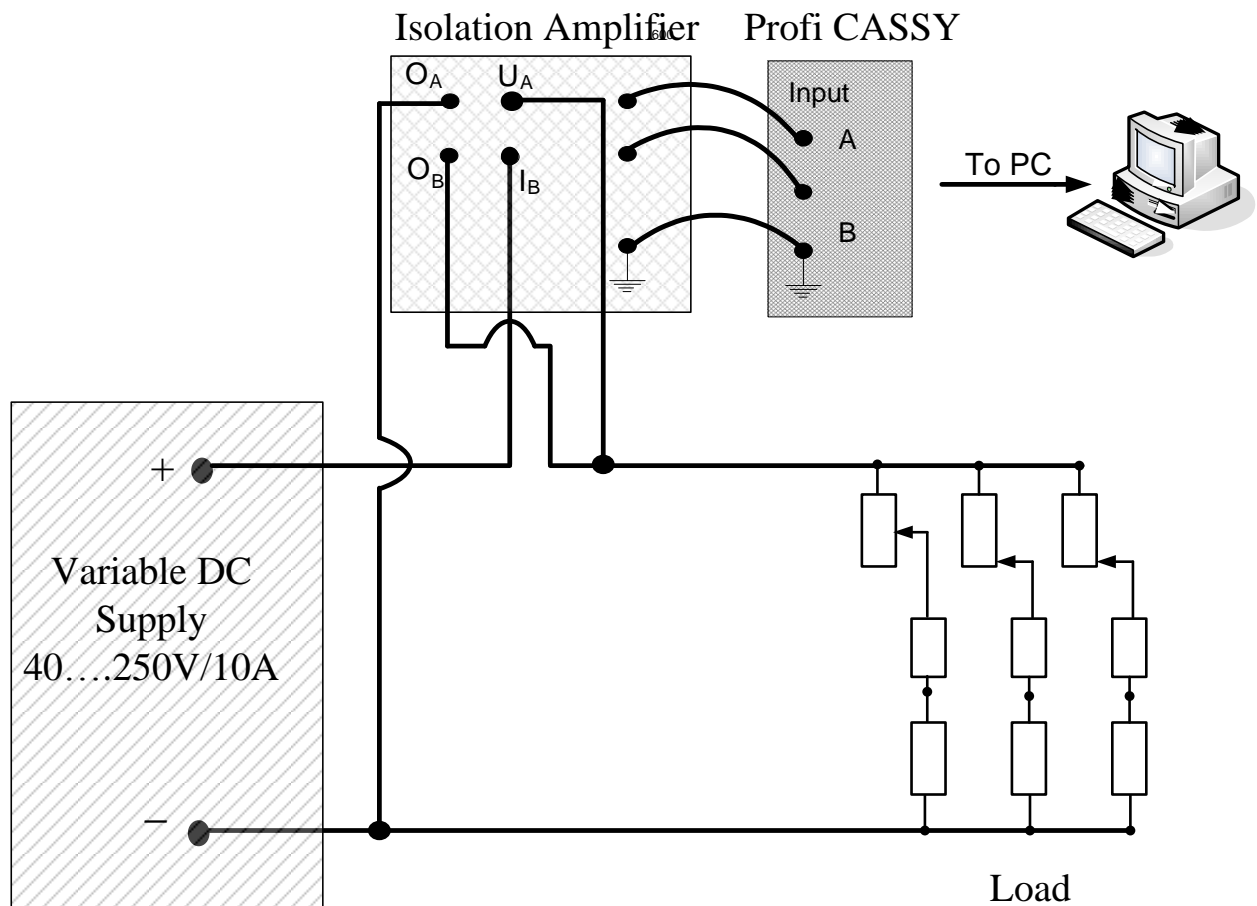

Figure 1: Wiring Diagram for DC Measurements Set Up.
3. Connect the circuit as shown in Figure 1 including Cassy measurement Connection for the indicated load Voltage and load Current and fix the rotating resistive curser at 100 % of R values.